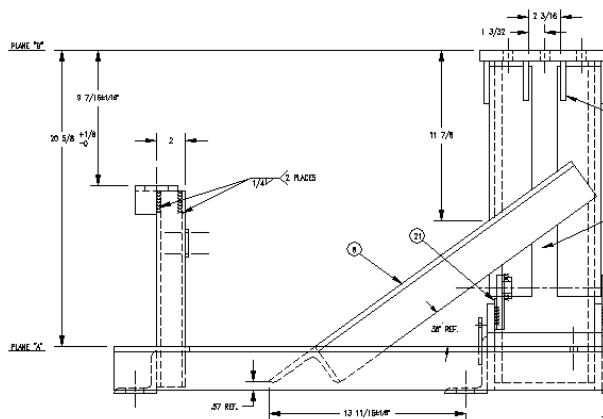

**Figure 10-13:** The washing machine base.
Specify third destination point or [eXit] <X>: *Place the cursor to the right of the new location of the horizontal angle so that it is aligned as shown in Figure 10-13, and press Enter.*
4. Save your drawing. It should look like Figure 10-13.